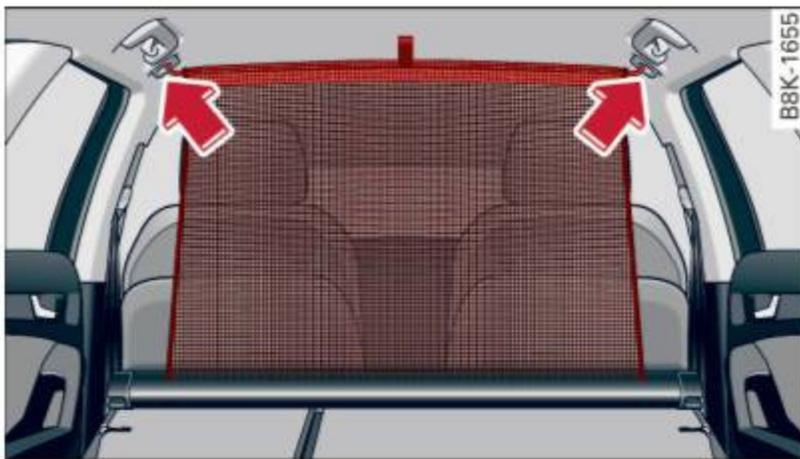

Fig. 80 Folded backrest: hanging the partition net
- ▶ Pull the net upward and hang the crossbar in the front eyelets **over the front seats** ⇒ *fig. 80 -arrow-*.